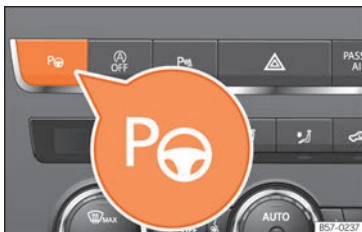

Fig. 184 In the upper part of the centre console: button to switch on the Park Assist system.
The components of the Park Assist system are the ultrasonic sensors located in the front and rear bumpers, the **P** button **Fig. 184** to switch the system on and off and the messages on the instrument cluster display.
After activating the Park Assist system and after detecting a parking space, the display on the instrument panel proposes a parking mode. The Park Assist system selects the parking mode automatically. The selected mode is shown on the instrument panel display **»» Fig. 185**. The reduced display of other possible parking modes is also shown **»» Fig. 186**. If the mode selected by the system does not correspond to the desired mode, you can select another mode by pressing the **P** button **»» Fig. 184**.
- Press the **Pe** button »» Fig. 184. A control lamp on the **Pe** button lights up when the system is switched on.